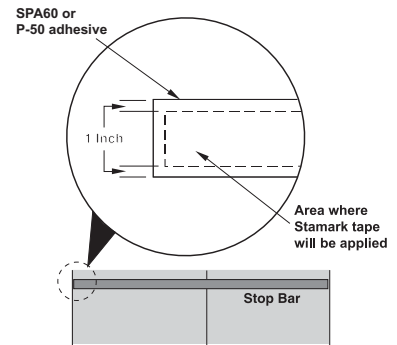

Figure 16
- b. If using SPA60 or P-50 for an intersection or and transverse making - including legends and symbols - evenly apply one coat of adhesive to the road surface using a solvent-resistant roller with a minimum 3/8-inch nap to a maximum 3/4-inch nap. The coating on the pavement must extend at least one inch (2.5 cm) beyond the premarked area. (See Figure 16.)